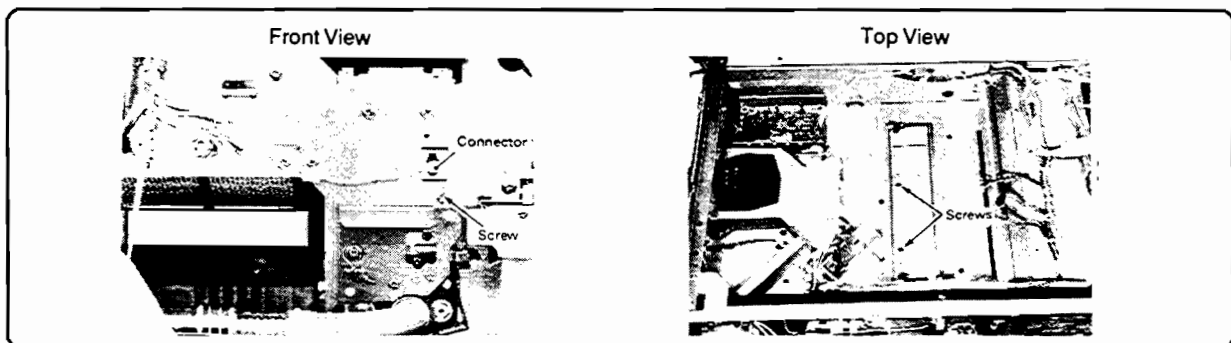

Figure 6-57. Preconditioning LED Removal
12. From the top of the printer, remove the two screws which are along the left inner floor of the squirrel cage fan housing (Engine-FM5 - Figure 6-57, top view).
Figure 6-57 shows the fan removed for clarity. This is not necessary for replacement of the Preconditioning LED assembly.
14. Remove the front holding screw for the preconditioning LED (Figure 6-57, front view).